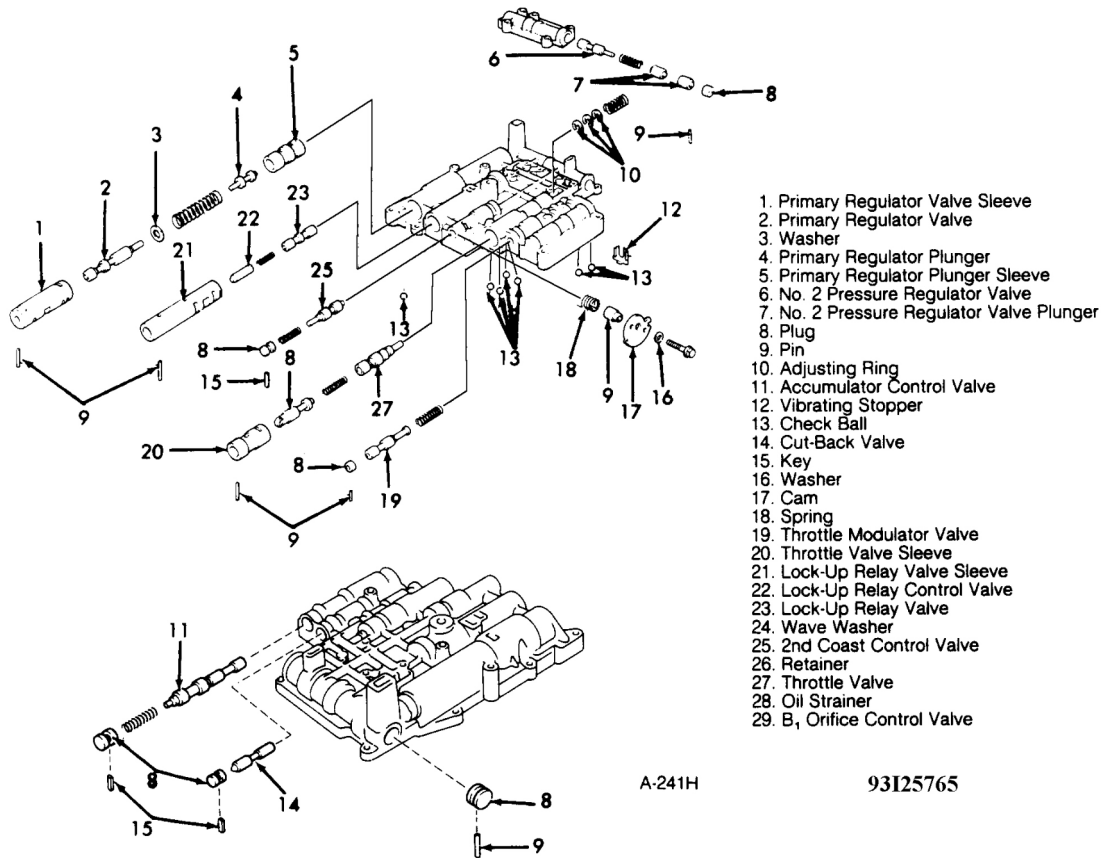

Fig. 34: Exploded View Of Upper Valve Body (View 1)
2. Push primary regulator valve sleeve inward and remove pin. Remove valve sleeve, primary regulator valve, valve plunger, plunger sleeve, shim and spring. See **Fig. 34**.